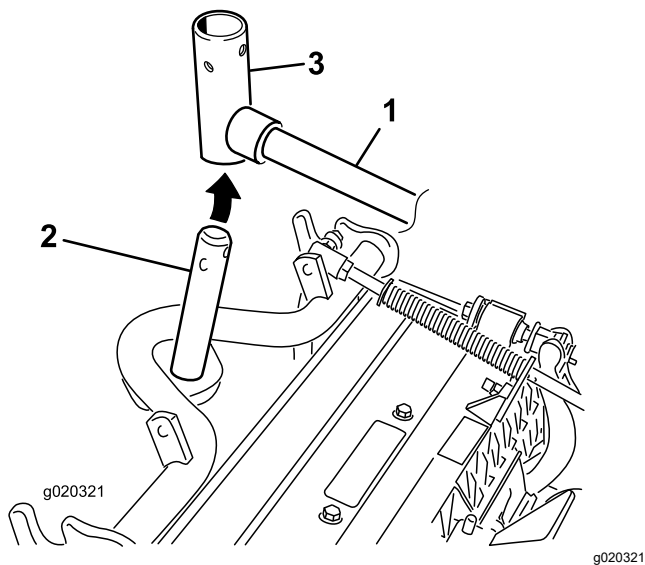

Figure 10
3. For the front cutting units, slide a cutting unit under the lift arm while inserting the carrier frame shaft up into the lift-arm pivot yoke (Figure 10).
2. Insert the lift-arm yoke onto the carrier frame shaft (Figure 10).